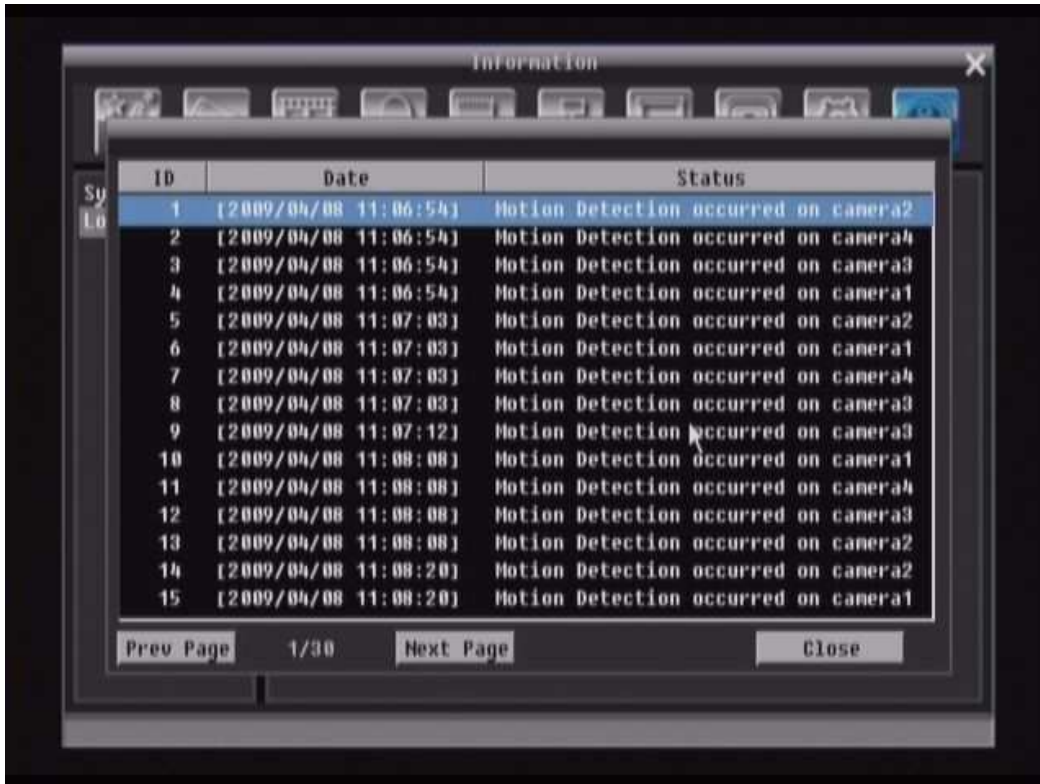

Figure 5-43 Log List
**View Log:** Press “View Log” button to view the log. See Figure 5-43 for more detail.